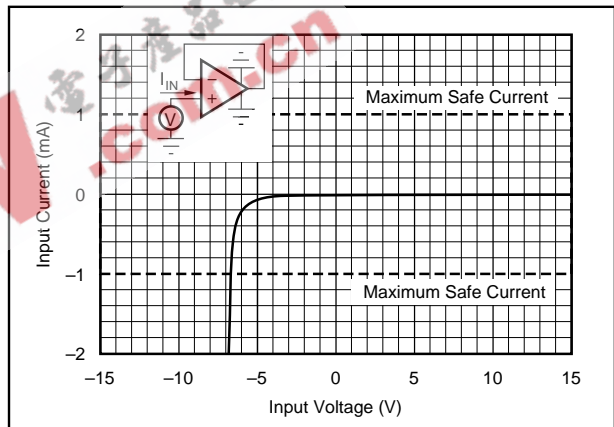

FIGURE 2. Input Current vs Input Voltage with $\pm V_{CC}$ Pins Grounded.
NOTES: (1) Packages must be derated based on $\theta_{JC} = 150^\circ\text{C}/\text{W}$ or $\theta_{JA} = 300^\circ\text{C}/\text{W}$. (2) For supply voltages less than $\pm 18\text{VDC}$, the absolute maximum input voltage is equal to $\pm 18\text{V} > V_{IN} > -V_{CC} - 6\text{V}$. See Figure 2. (3) Short circuit may be to power supply common only. Rating applies to $+25^\circ\text{C}$ ambient. Observe dissipation limit and T_J .